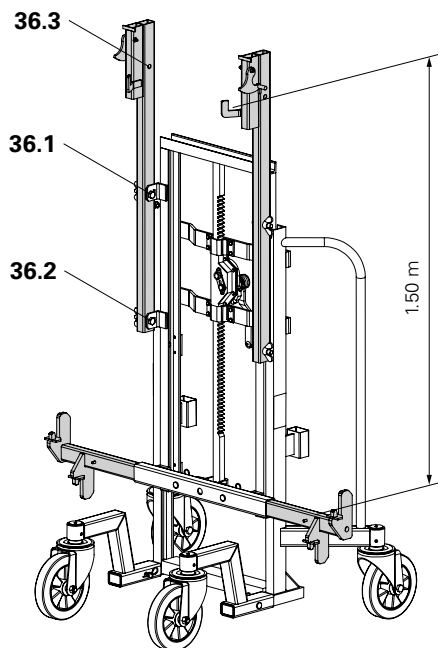

Fig. C1.01
1. Fit the upper connectors of the trolley with winch at the respective middle (**36.1**) and bottom (**36.2**) holes. The top hole (**36.3**) remains free. (Fig. C1.01)